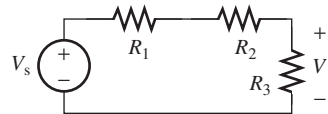

FIGURE P3.17 Circuit for Problem 3.17.
3.17 (A) Find V_s given V in Figure P3.17.